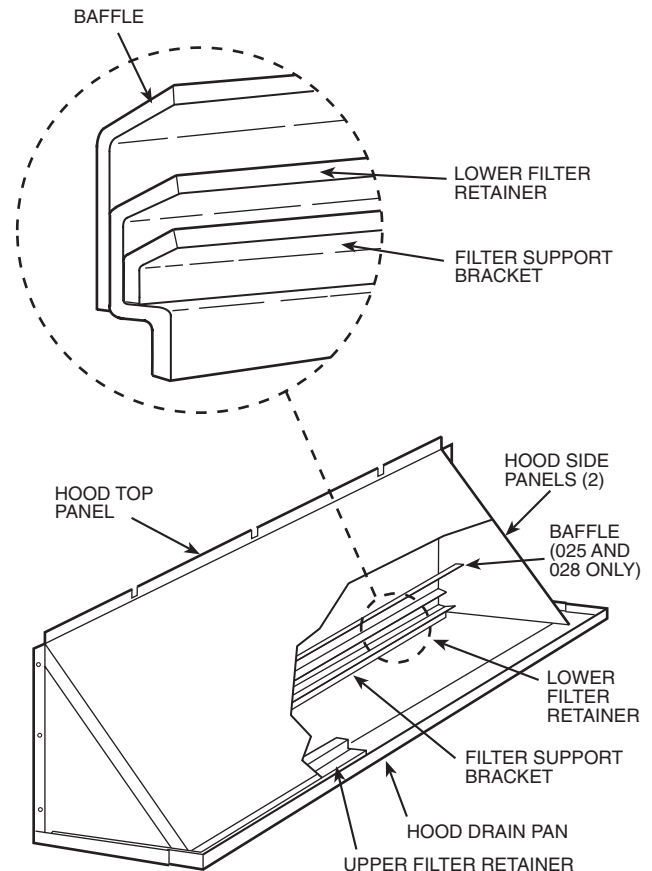

Fig. 21 — Outdoor-Air Hood Details
2. Assemble hood top panel, side panels, upper filter retainer, and drain pan (see Fig. 21).
3. Secure lower filter retainer and support bracket to unit. See Fig. 21. Leave screws loose on 025 and 028 units.